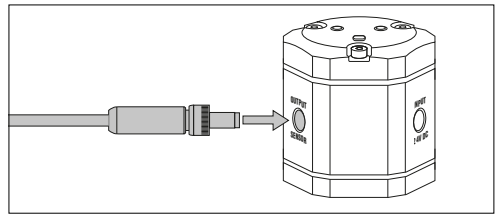

Fig. 4: Connecting the adapter cable to the TempoLink® smart assistant
The TempoLink® smart assistant can be connected to all sensors of the R-Series V family. Depending on the sensor output, different adapter cables are available to connect the TempoLink® smart assistant to the R-Series V sensor. Use the appropriate adapter cable ③ for the sensor output. Connect the barrel connector of the adapter cable to the connection point labeled “OUTPUT SENSOR” on the TempoLink® smart assistant (Fig. 4). Next, connect the opposite end of the adapter cable to the power supply at the R-Series V sensor. The TempoLink® smart assistant also provides the power supply for the sensor. Fig. 5 shows the connection of the TempoLink® smart assistant to the R-Series V. The adapter cable is available in different versions depending on the sensor output. See the specific R-Series V operation manual for more information.